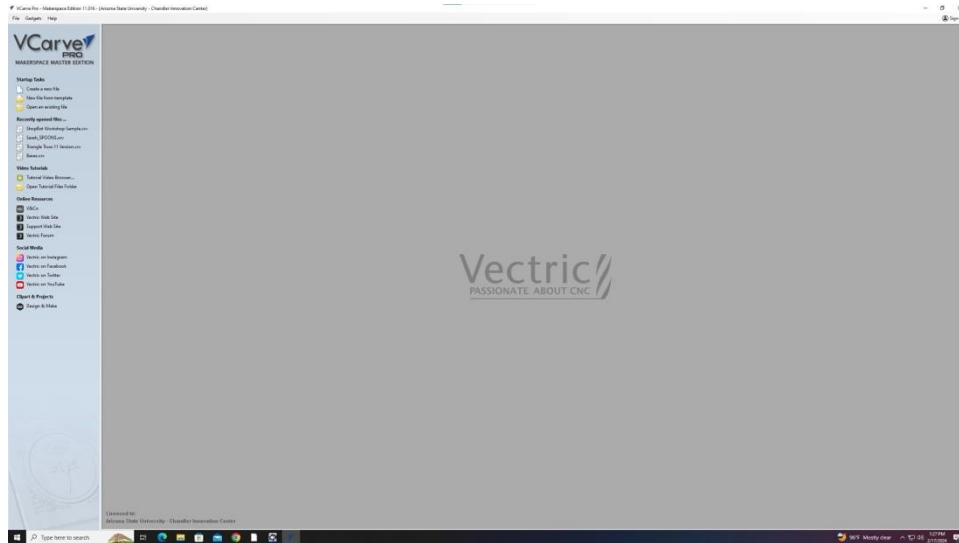

Figure 13: Starting up VCarve Application
2. Open up a blank board on the application(Figure 13):